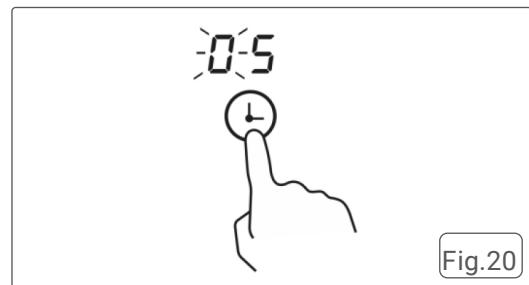

Fig.20
- 4. Touch timer control again, the "0" will flash. Fig.20